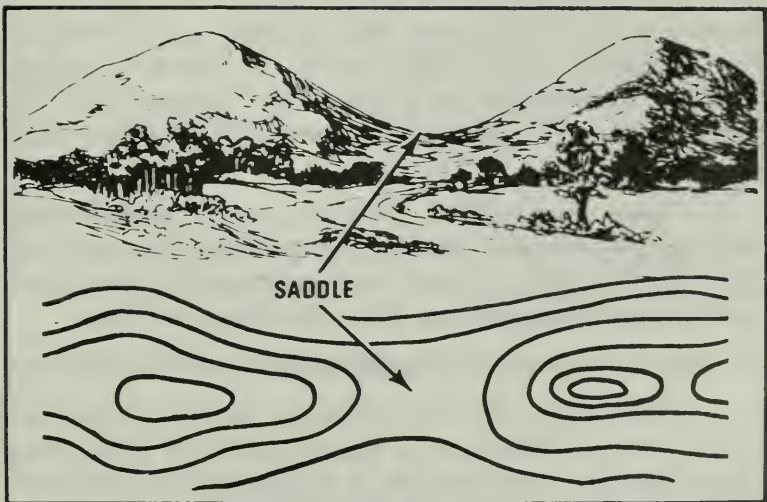

Figure 18. A Saddle.
(4) Saddle (Figure 18). A dip or low point along the crest of a ridge. A saddle is not necessarily the lower ground between two hilltops; it may be a break along an otherwise level ridge crest.